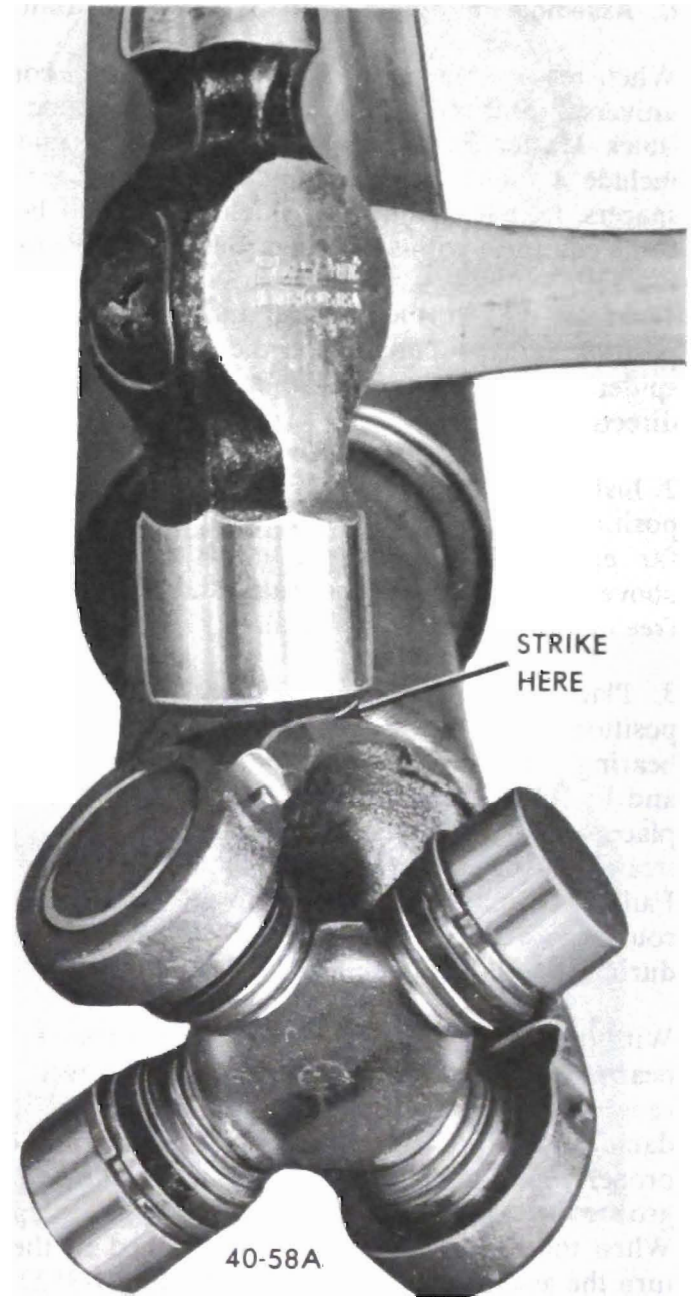

Figure 40-71 Seating U-joint Snap Rings
4. Strike the yoke firmly with a hammer to fully seat the snap rings against the yoke. Turn the spider to make certain that it is free. See Figure 40-71.